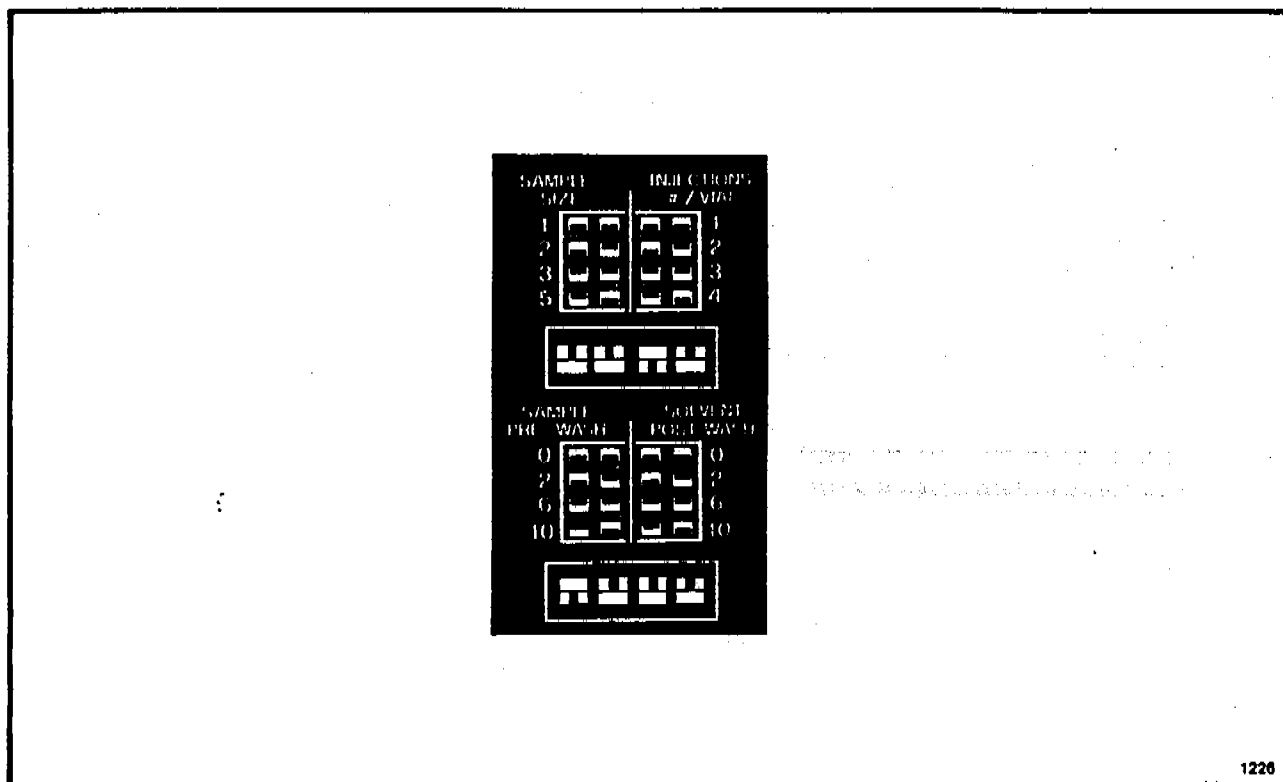

Figure 3-22. Example, Injector Conditions
1. Set the injector front panel switches to match the settings in Figure 3-22 above.
1. Set the injector front panel switches to match the settings in Figure 3-22.